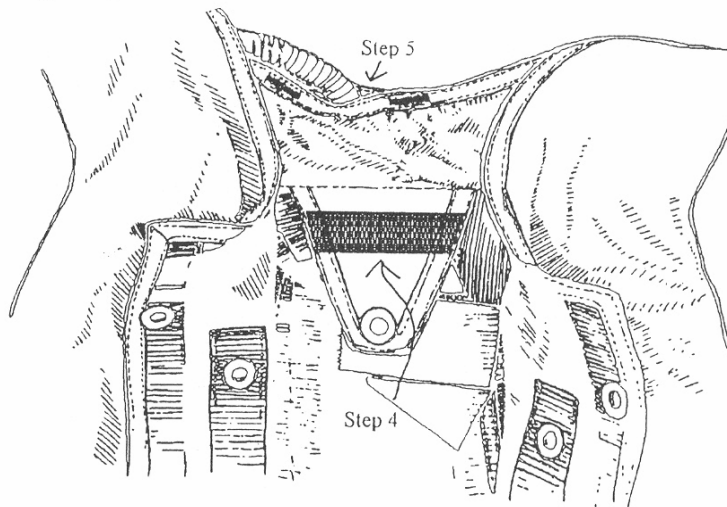

Figure 2.
Step 4. Cut velcro to fit on to the reserve container top flap. Sew the 1" pile velcro onto the outside of the reserve container top flap (see Figure 2)
Step 5. Being very careful, break the stitches between the binding tape at the top of the Type 4 Square Weave (backpad side) & the binding tape on the yoke flap (reserve container side). Leave a big enough space to put the ripcord housing through. Sew (preferably with a zigzag stitch) reinforcements on the binding tape on both sides of the opening that you just made. (Figure 2)